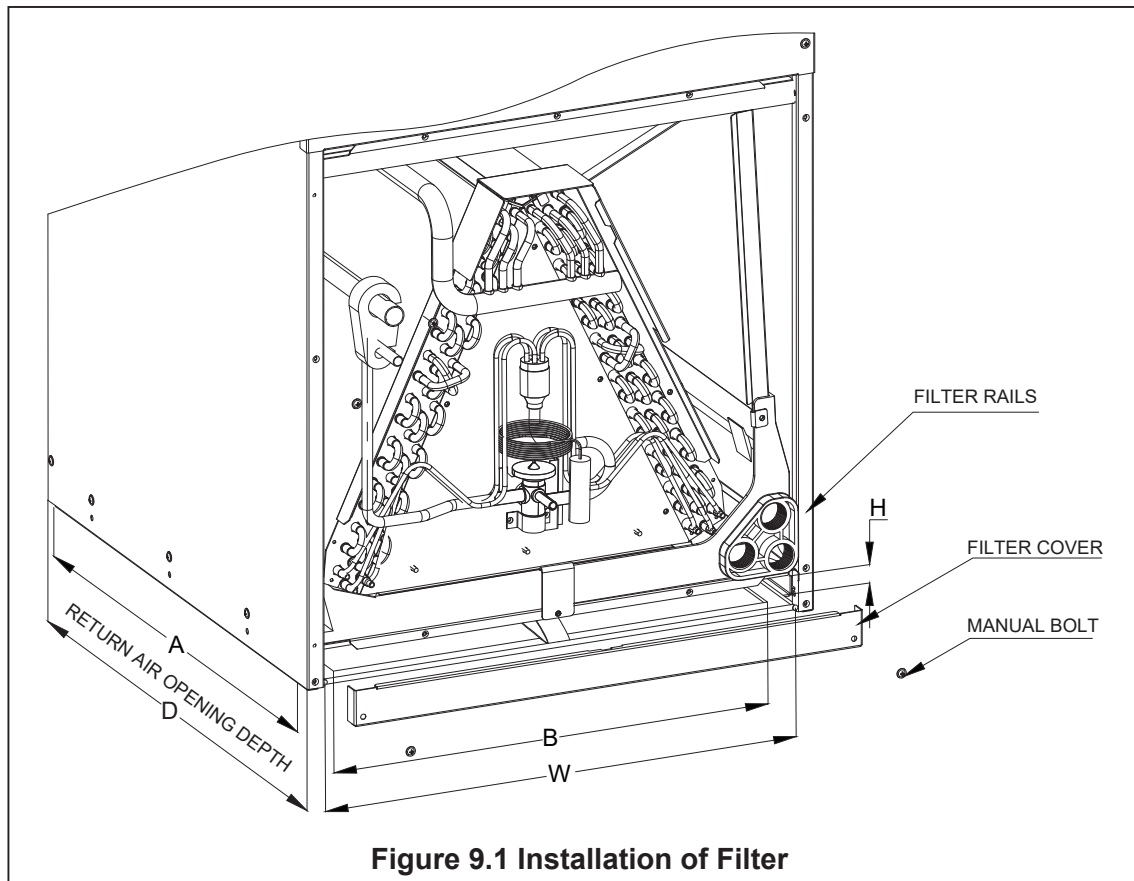

Figure 9.1 Installation of Filter
- Manually remove the bolts and remove the filter cover, as shown in Figure 9.1.